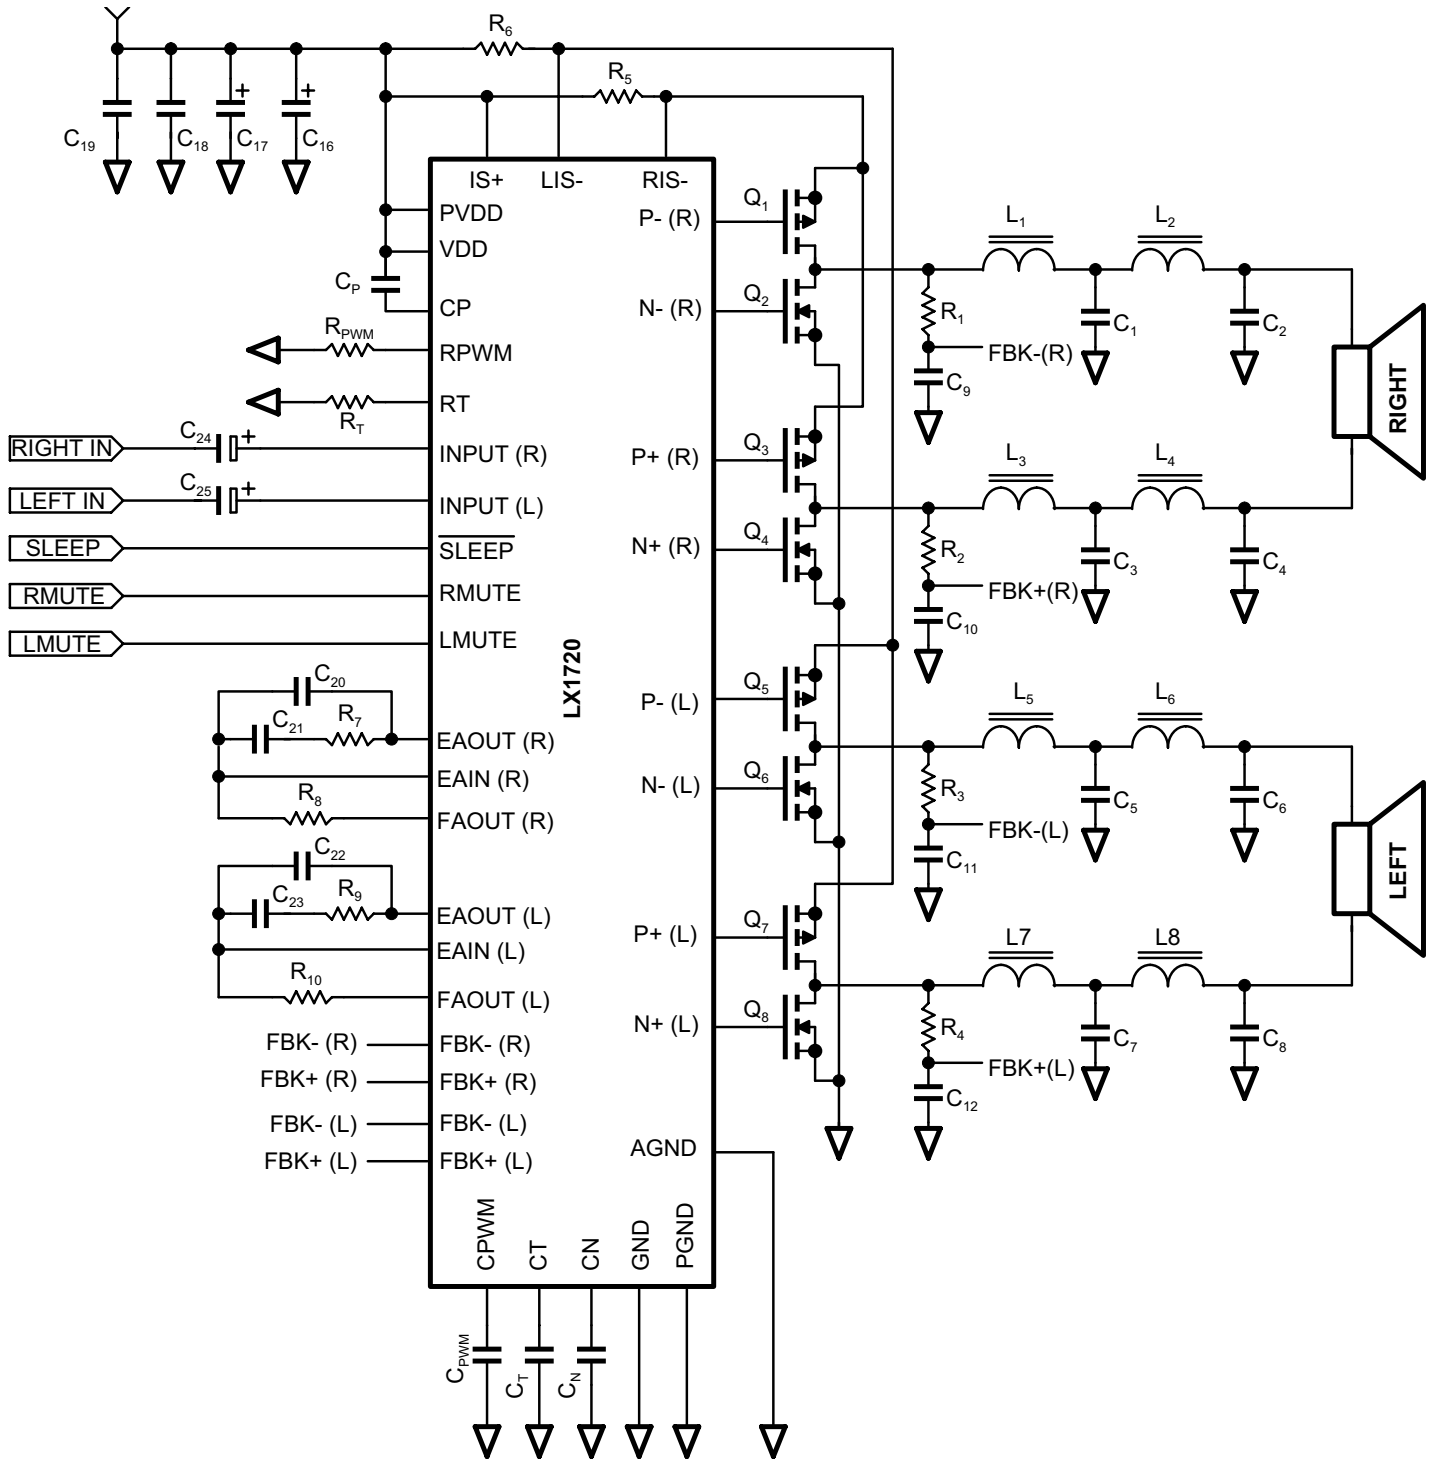

Figure 5
SELECTION OF FIXED COMPONENT VALUES (Please refer to Figure 5 below)
- There are 3 grounds in this circuit (Figure 5): audio signal, IC and power for the FETs.